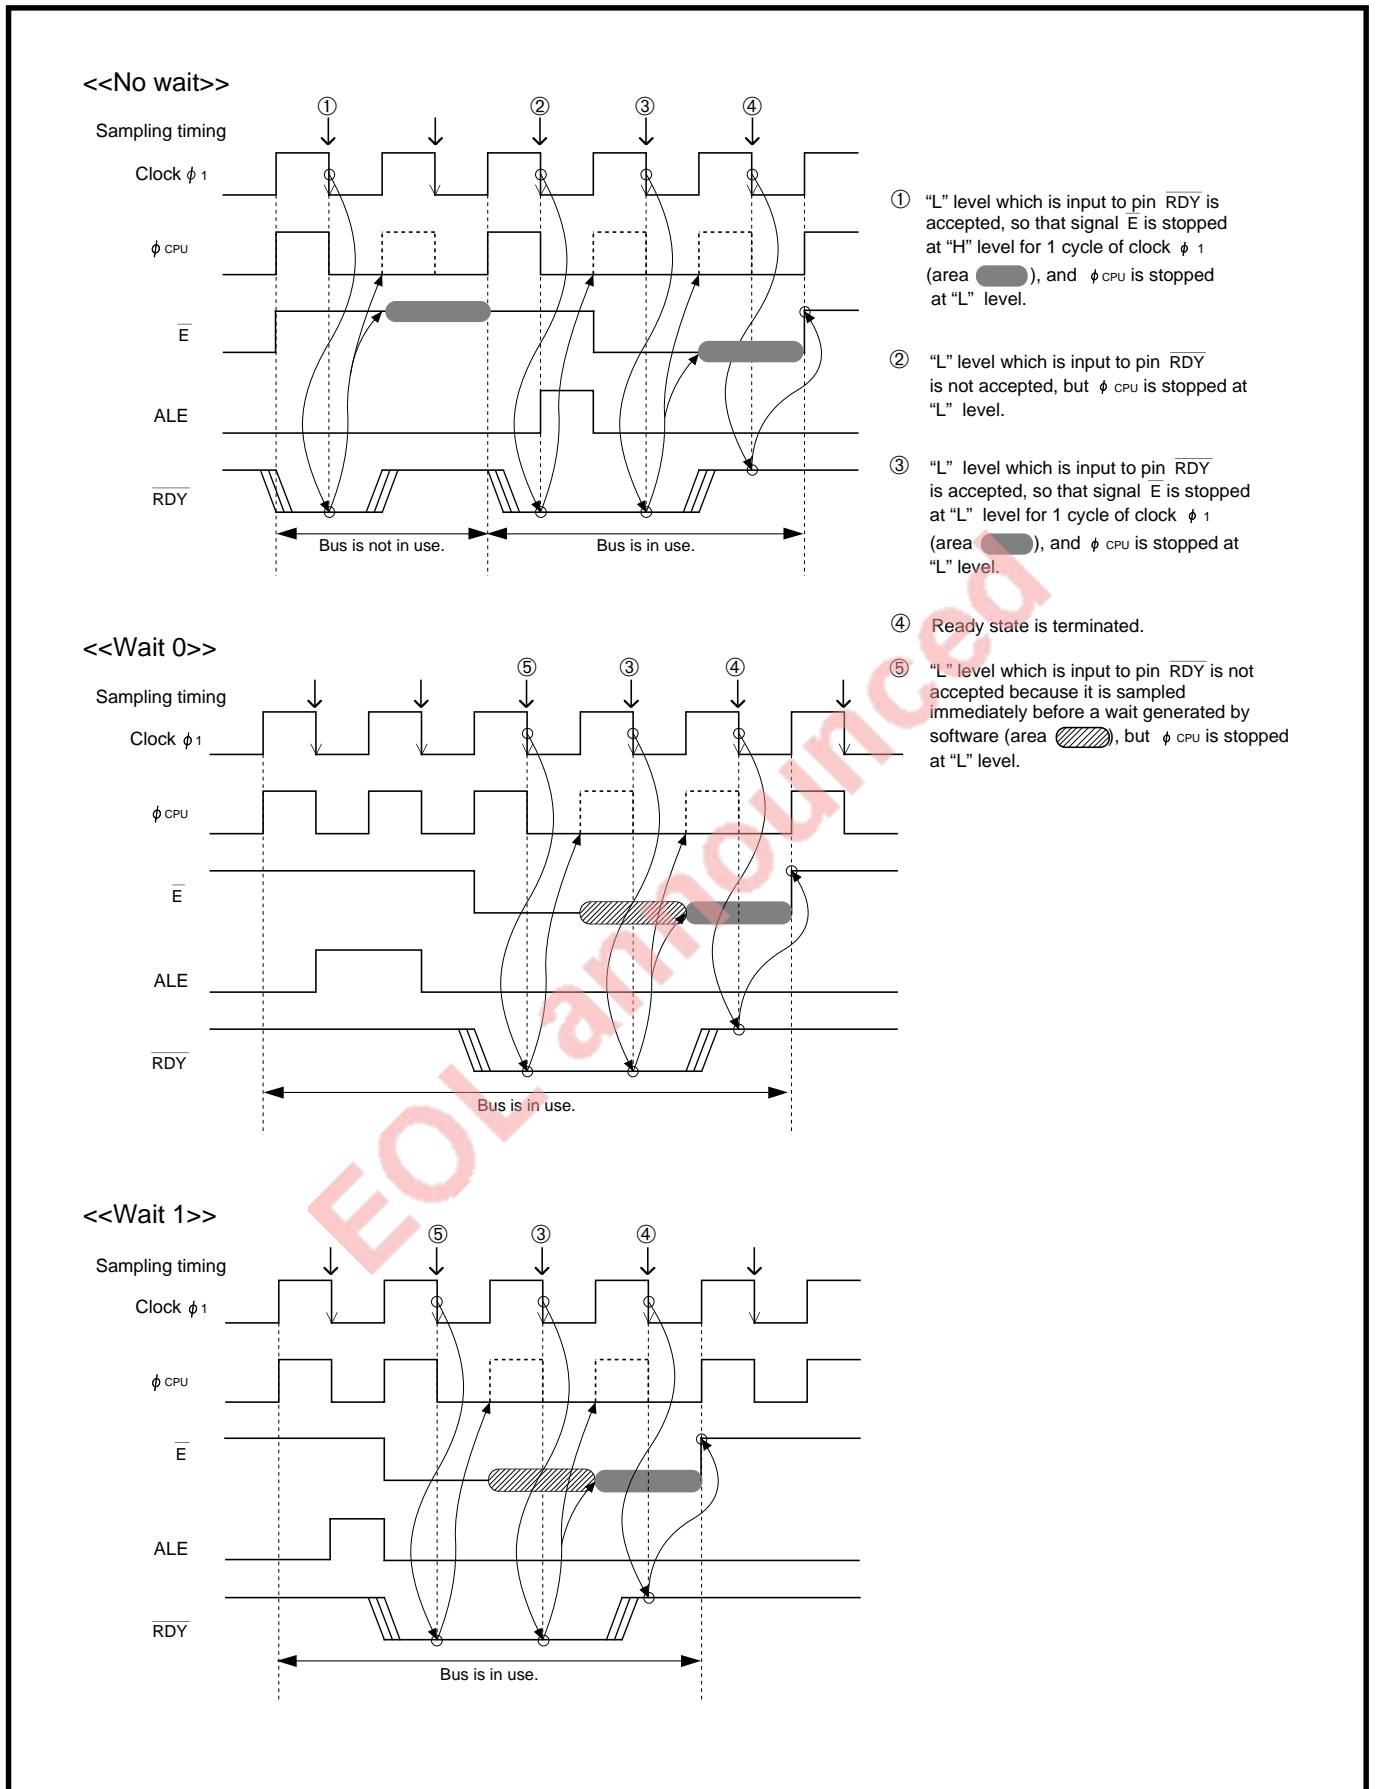

Fig. 12.3.1 Timings when ready state is accepted and terminated
- When the level of signal  $\bar{E}$  is “H” while the bus is in use (Refer to ② in Figure 12.3.1.)
- Immediately before a wait generated by the software wait (Refer to ⑤ in Figure 12.3.1.)
When “L” level is input to pin  $\overline{\text{RDY}}$ , this signal is accepted at the falling edge of clock  $\phi_1$  and the microcomputer enters the ready state. The ready state can be terminated by setting pin  $\overline{\text{RDY}}$ 's level to “H” again. When “H” level is input to pin  $\overline{\text{RDY}}$ , this signal is also accepted at the falling edge of clock  $\phi_1$  and the ready state is terminated. Figure 12.3.1 shows timings when the ready state is accepted and terminated. Refer to section “17.1 Memory expansion” for the way to use the ready function.